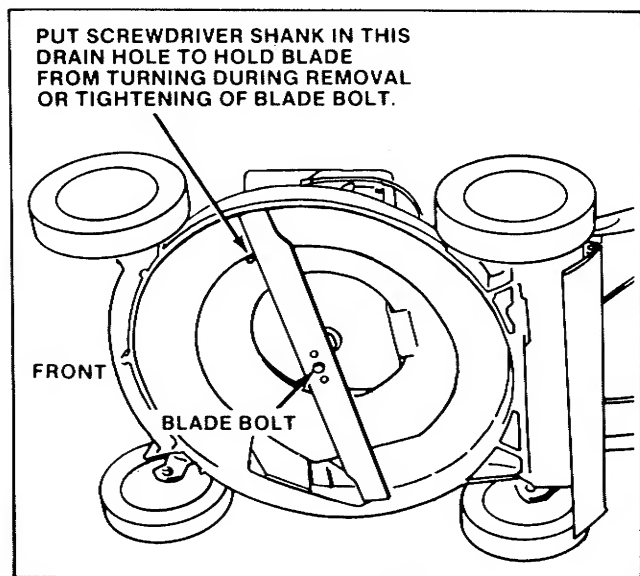

FIGURE 14
CHANGING BLADE (See Figure 14)
2. Put the shank of a screwdriver in the deck drain hole (see Figure 14) to block the blade from turning.